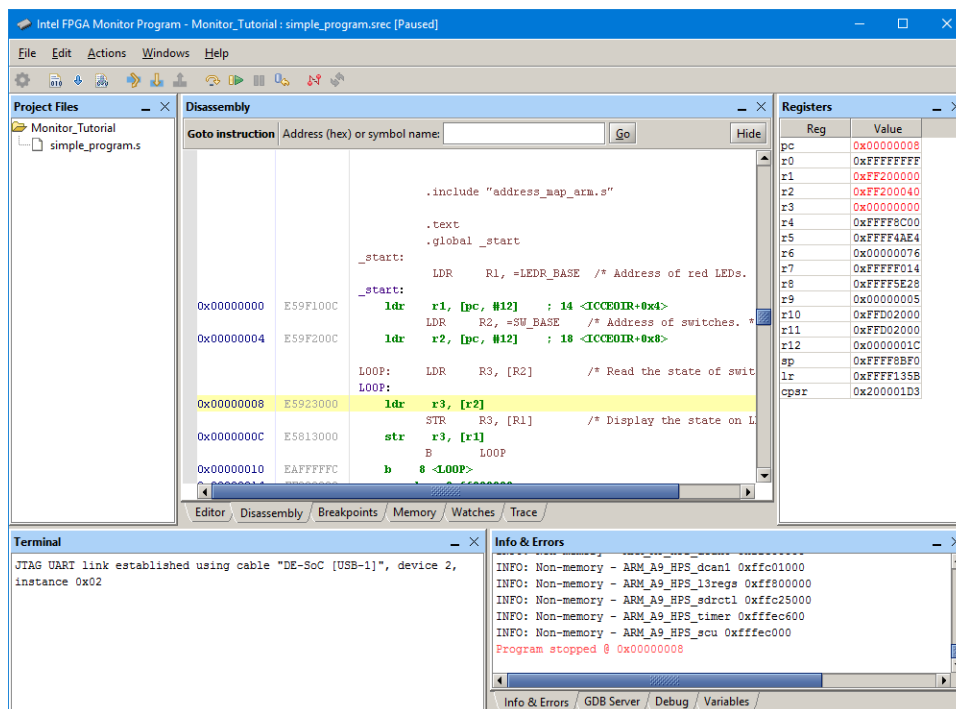

Figure 15. The Monitor Program display after the program has been stopped.
Figure 15 shows an example of what the display may look like when the program is halted by using the **Stop** command. The display highlights in yellow the next program instruction to be executed, which is at address 0x0000000C, and highlights in red the values in the processor registers that have changed since the last program stoppage. Other screens in the Monitor Program are also updated, which will be described in later parts of this tutorial.
In Figure 15, the Disassembly window shows the machine instructions for our program. The leftmost column in the window gives the memory addresses, the middle column displays the machine code at these addresses, and the rightmost column shows the corresponding assembly-language instructions.
1. In the Disassembly window, scroll to display the instruction that will have the breakpoint. For example, in the window in Figure 15 scroll to the Branch instruction at address 0x00000010.